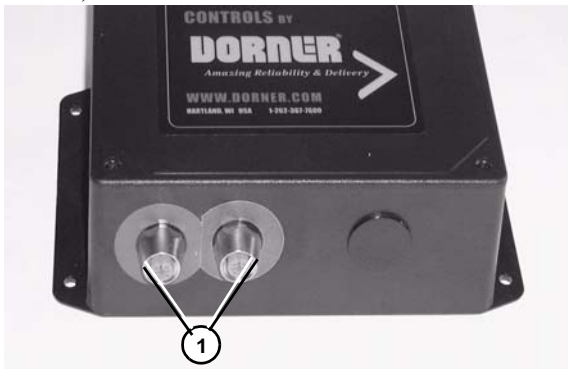

Figure 14
1. Connect push button unused accessory port (Figure 14, item 1).